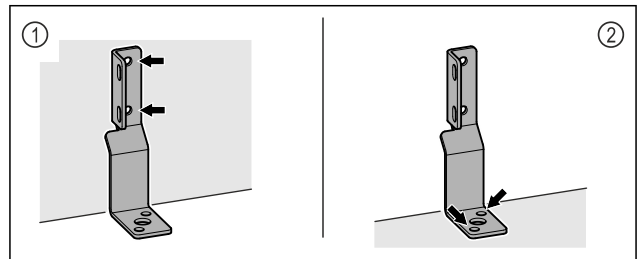

Fig. 8
- ▶ Attach bracket to wall Fig. 8 (1) or floor Fig. 8 (2).